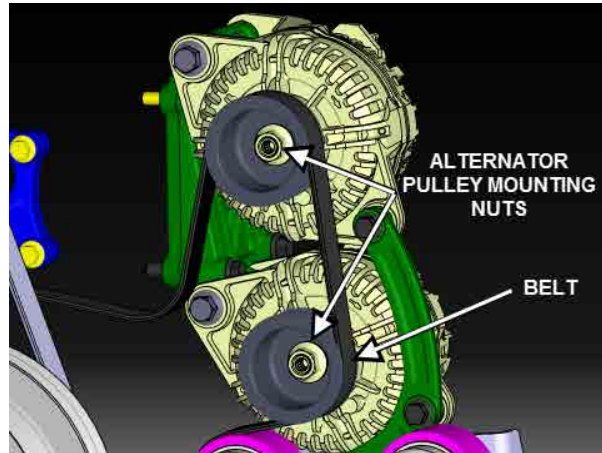

FIGURE 2
2. Remove the alternator belt (FIGURE 2).
3. Unscrew the alternator pulley mounting nut (FIGURE 2).
4. Remove the alternator pulley (2 pulleys) (FIGURE 2).